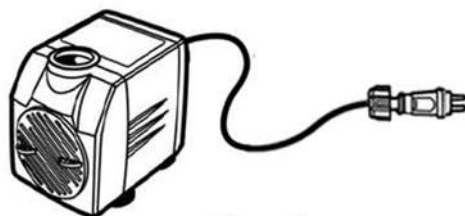

Fig. 3
7. If the pump runs with low or high water circulation Check and adjust the regulator dial or slide on the front of the pump. Adjust the dial/slide towards (+) to increase water flow or towards (-) to decrease water flow. (Fig. 3)